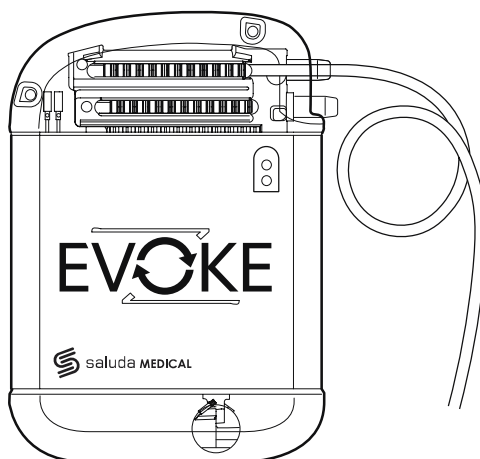

Figure 6.6: The lead exiting the CLS header with a strain relief loop.
11. Create a strain relief loop under the CLS (refer to Figure 6.6). If there is excess lead after this loop, coil the lead around the perimeter of the CLS or underneath.